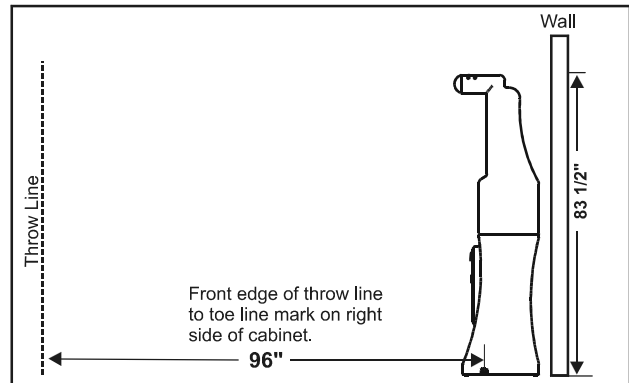

Figure 1: Side view of play field
8. Place the throw line Eight feet (96") from the center of the bullseye. (See Figure 1)